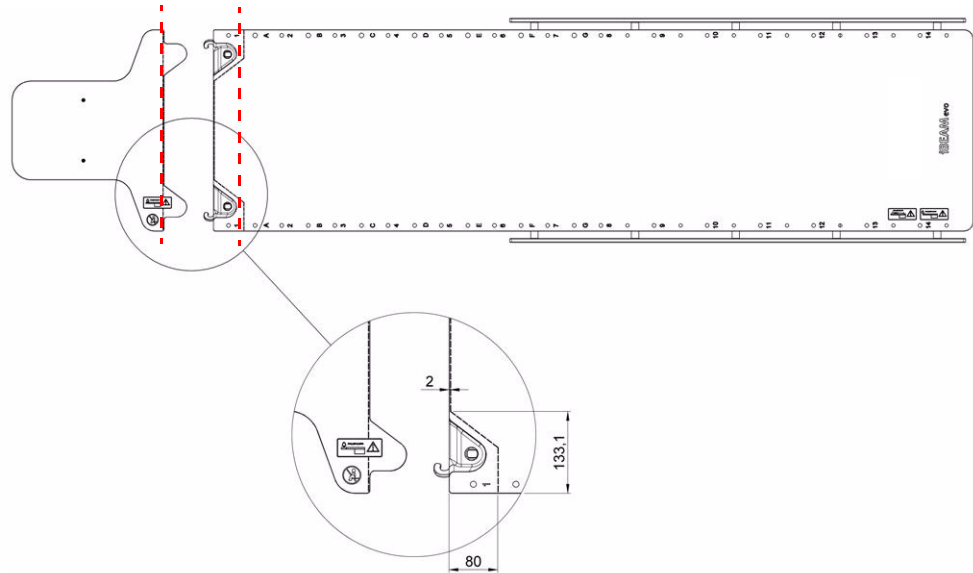

Figure 108 Areas of solid carbon-fibre inlays.
The robotic couchtop has fixed rails on both sides of the tabletop (① in Figure 108) which can be used to fix accessories. Do not attach heavy accessories with long attachments.